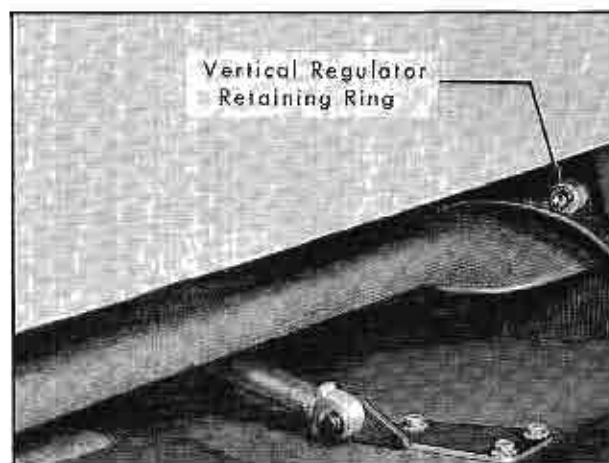

Fig. 3-66 Vertical Regulator Retaining Ring
2. From under rear of seat, remove retaining ring. Fig. 3-66.